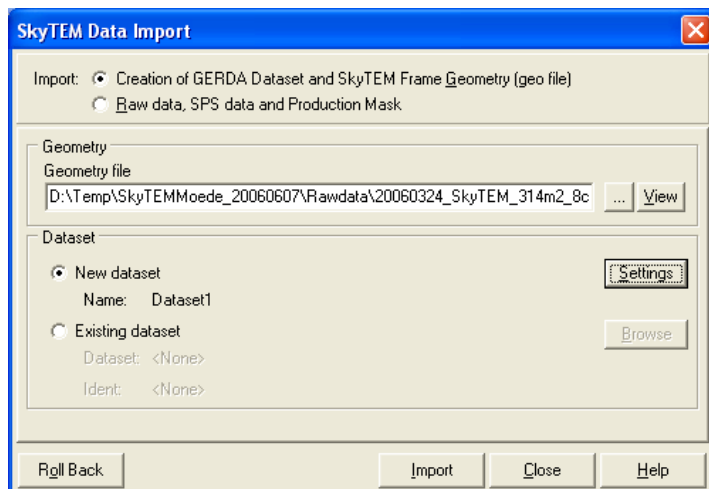

Figure 1.1 The SkyTEM Data Import window, section Creation of GERDA...
Importing SkyTEM data to a GERDA database is a three step process: Creating the database in the Workspace Manager, adding a data set to the database and finally importing the data. The two latter is done in the SkyTEM Data Import Window shown in figure 1.1. The window is divided into two sections: Creation of GERDA Dataset and SkyTEM Frame Geometry (geo file) and Raw data, SPS data and Production Mask.
2. Highlight the Creation of GERDA... radio button in the top of the SkyTEM Data Import window (Figure 1.1).